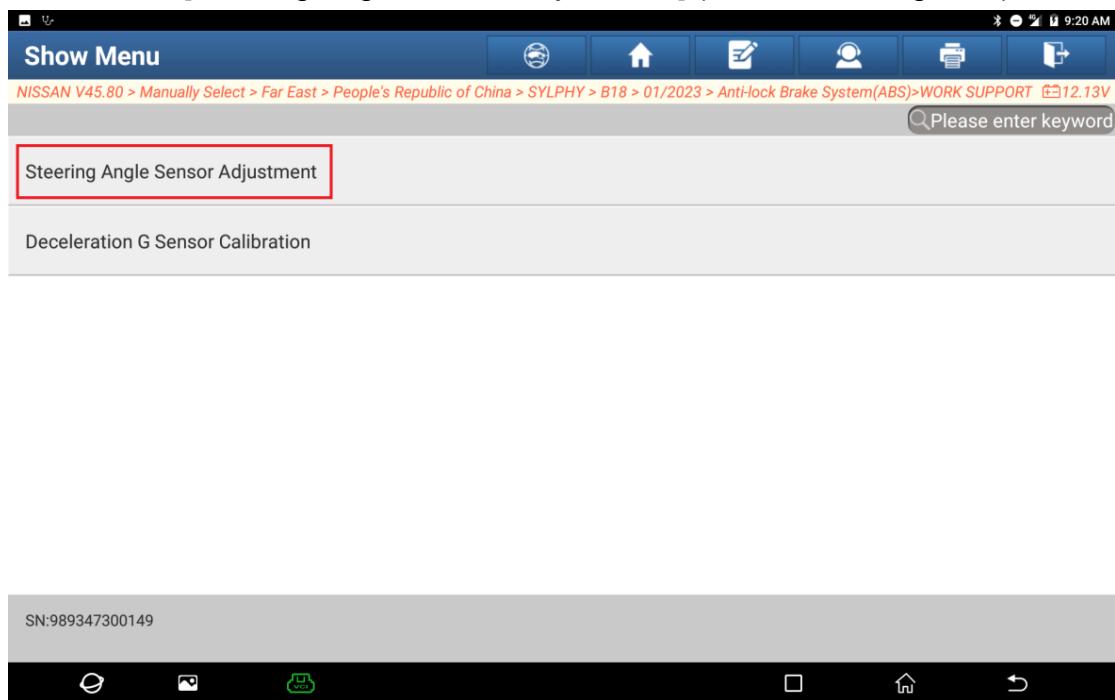

Figure 5
5. Choose [Steering Angle Sensor Adjustment] (as shown in Figure 5).